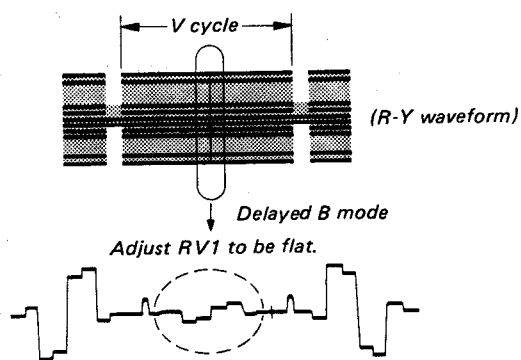

Fig. 5-112.
3. Set the oscilloscope sensitivity to 0.2V/DIV, and adjust RV1 on the BB board so that the area designated in Fig. 5-112 is flat.